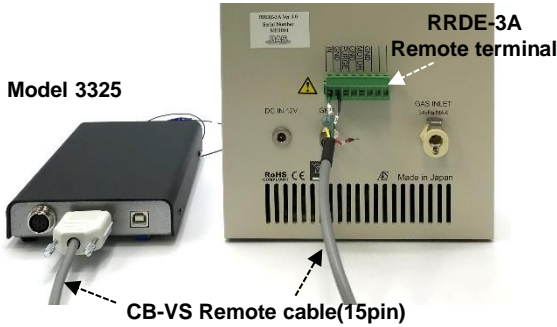

Figure 4-1 Remote connection of Model 3325 and RRDE-3A
- Figure 4-1 is an example of remote connection for Model 3325 Bi-Potentiostat and RRDE-3A Rotating Ring Disk Electrode Apparatus.